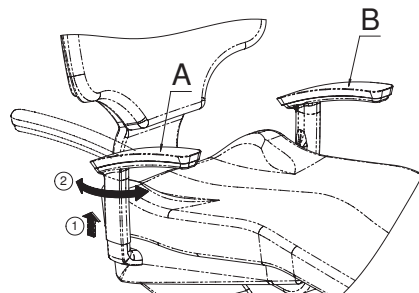

Fig. 18
To rotate the optional armrest (A), it must be pulled upwards (kept in its housing) until the rotation mechanism is released, allowing it to be turned until reaching the track limit where it stops. To return the armrest to its initial position, simply lift it and turn it inside until it locks automatically (Fig. 18).